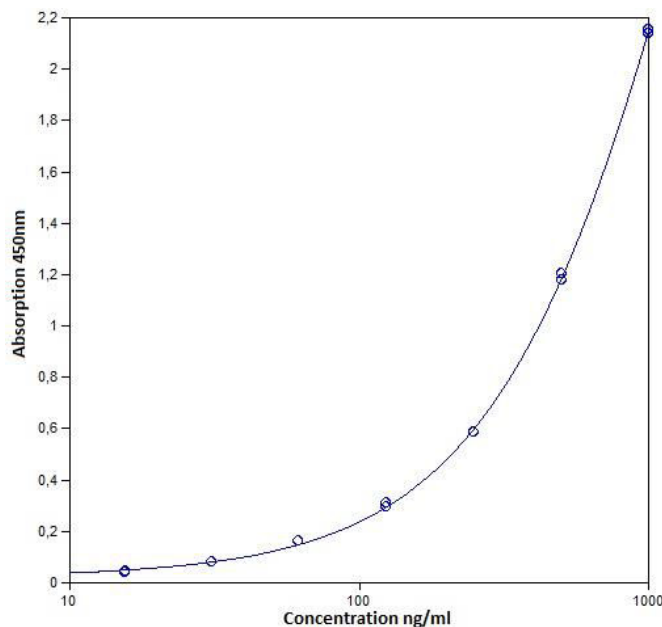

Fig. 7 Representative standard curve for human IgG1 ELISA. Human IgG1 was diluted in serial 2-fold steps in Assay Buffer (1x).
- A representative standard curve is shown in Figure 7.